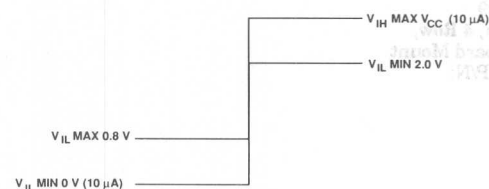

Figure 18. Link Control Receiver Levels.
12. Figure 18 shows the receive levels for the Link Control line.